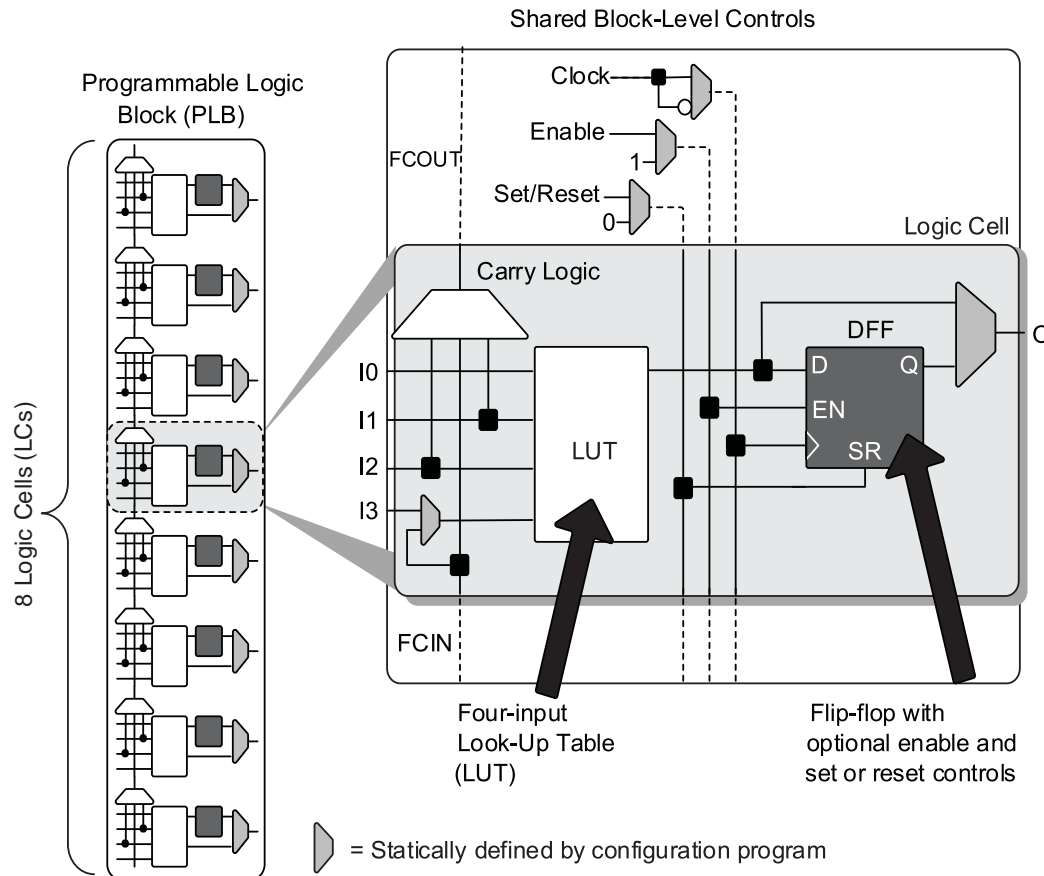

Figure 3.2. PLB Block Diagram
The core of the iCE40LM device consists of Programmable Logic Blocks (PLB) which can be programmed to perform logic and arithmetic functions. Each PLB consists of eight interconnected Logic Cells (LC) as shown in Figure 3.2. Each LC contains one LUT and one register.
Each Logic Cell includes three primary logic elements shown in Figure 3.2.